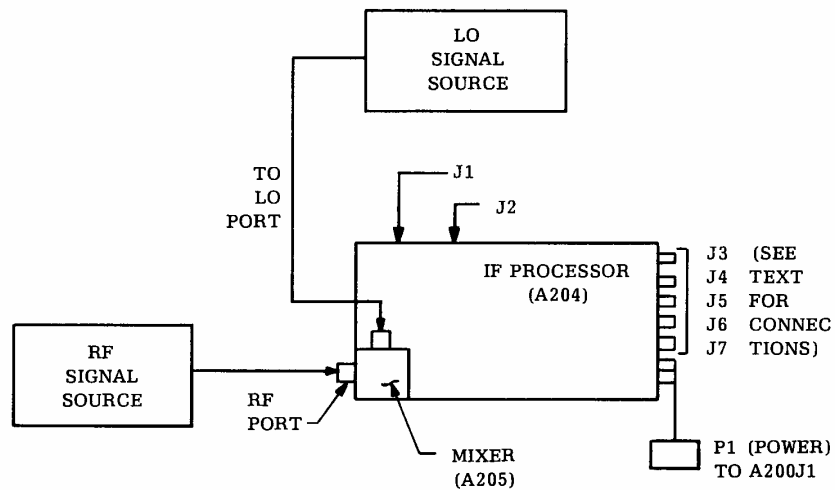

Figure 5-3. Test Set-Up IF Processor (A204)
5. Apply a 0 dBm signal in the 1-18 GHz range to the Mixer RF input port (see Figure 5-3). Monitor DC output with oscilloscope at IF converter port (connector that plugs into IF Processor). A DC voltage between 50 and 250 mV should be indicated.
3. Connect IF Processor to two signal generators as shown in Figure 5-3. Terminate A204J3 in 50 ohms.
6. Set LO signal source for $1 \text{ GHz} \pm 1 \text{ MHz}$ at -16 dBm, and apply to LO Mixer port (see Figure 5-3).